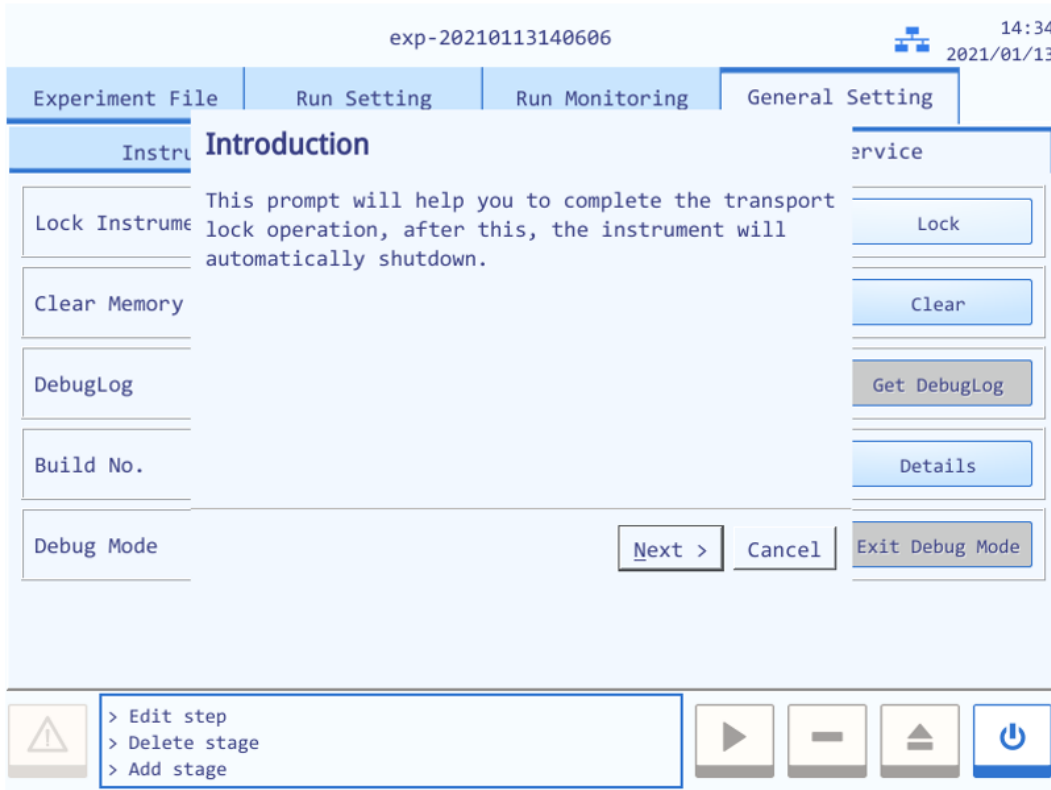

Figure F-4. Transport Locking Operation (2)
**3rd Step:** Open the **General Setting tab > Service sub-tab** and press < **Lock** > on the instrument system software, a prompt will pop up to help user complete the transport lock operation, as shown in figure F-4.